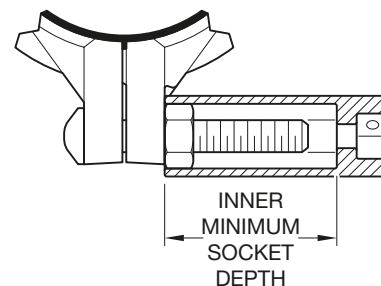

FIGURE 5
Step 5. Tighten nut to the recommended bolt torque, see Figure 5. Visually inspect the coupling to ensure that the housing keys are engaged into the pipe grooves.
Bolt-torque information is supplied as a guideline in Figure 5 and may be used when setting the torque on power impact wrenches. Refer to the manufacturer's instructions for settings.
Bolt lengths require the use of deep or extra-deep-well sockets. Sockets inner depth information is supplied for reference only, see Figure 5. For specific socket recommendations, contact Technical Services.